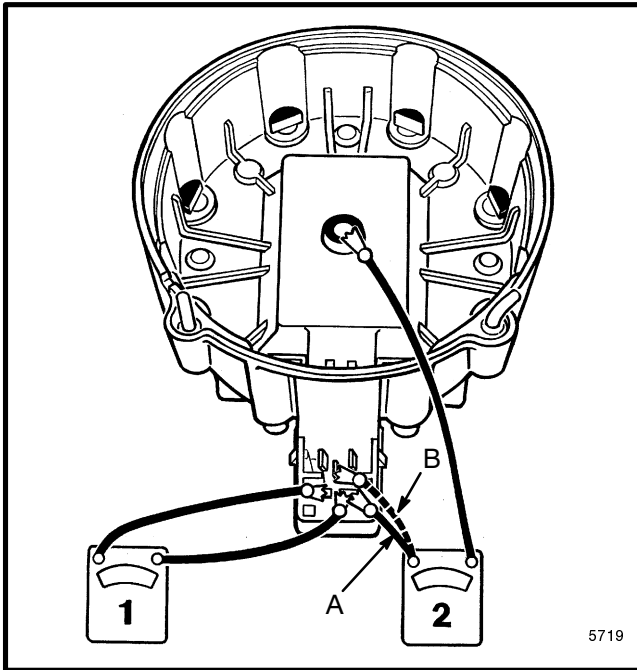

FIGURE 14. IGNITION COIL CHECKS, V8 AND SOME 4 AND 6 CYLINDER ENGINES
3. Unlock the four screws that fasten the cap to the housing. Carefully remove the cap and turn it to the position shown in FIGURE 14.
4. Set the ohmmeter to the low scale. Connect the ohmmeter as shown in step 1 of FIGURE 14. The normal indication is less than 2 ohms. Replace the coil if the indication is infinity.
5. Set the ohmmeter to the high scale. Connect the ohmmeter as shown in steps A and B of step 2 of FIGURE 14. Install a new coil if, both the indications are infinity. A resistance indication one way and an infinity indication the other way is normal.